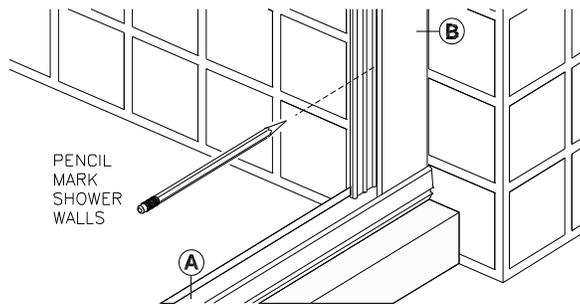

Figure 2
Place Wall Jambs (B) on to ends of Sill (A) and up against shower walls as shown in **Figure 2**.